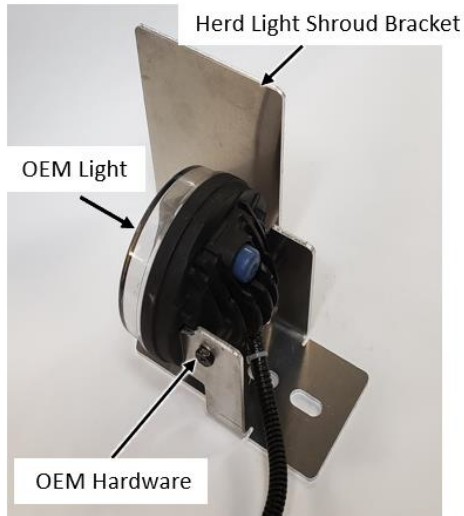

Figure 4a:
1. Mount OEM Light to the Herd Light Shroud Bracket using the OEM hardware, see Figure 4a.